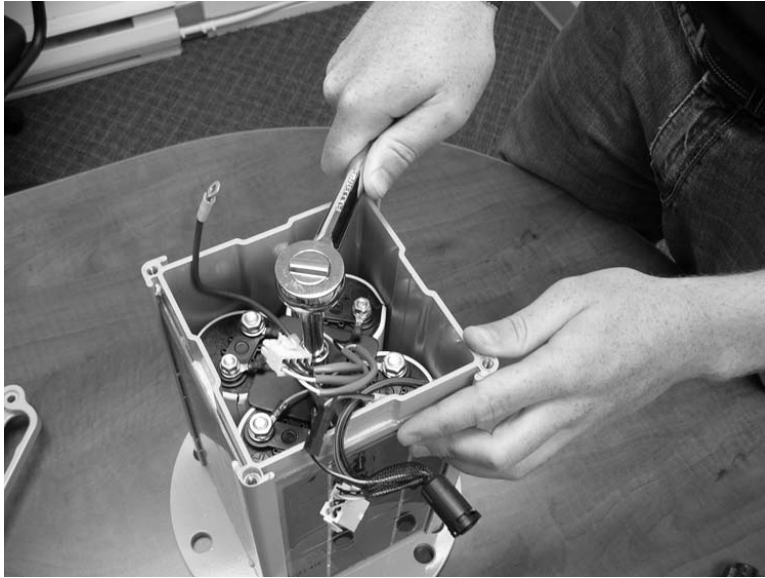

Figure 11-6: Removing the Battery Retention Bolt
9. Remove the battery retention bolt using the ratchet and socket with extension; see Figure 11-6.